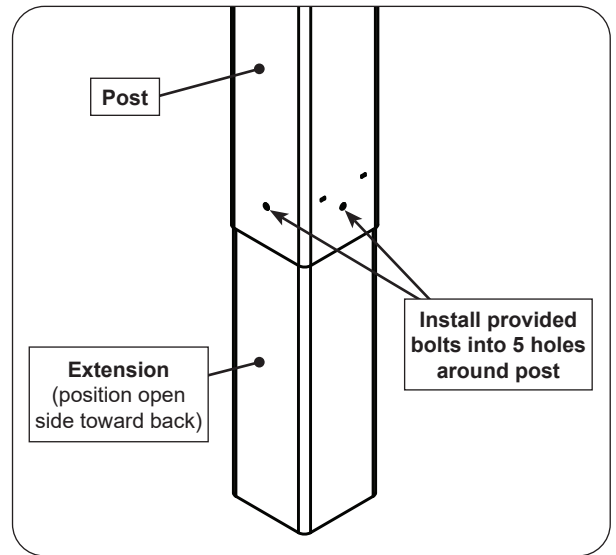

Fig. 11-1 Install extension to post
1. Attach the extension to the bottom of the grill post so that the open portion is toward the back of the grill and the five holes in the extension line up with the five (5) weld-nuts in the post (see Fig. 11-1).